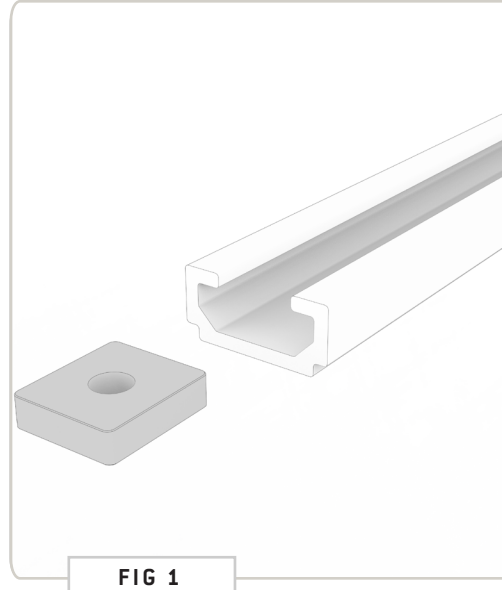

FIG 1
1.1 Install Rail Nuts: Slide (6) Rail Nuts into the passenger side factory roof rail (FIG 1), and (8) into the driver side rail. The extra two will be for either your Side Ladder or Side Ladder Access Cover.